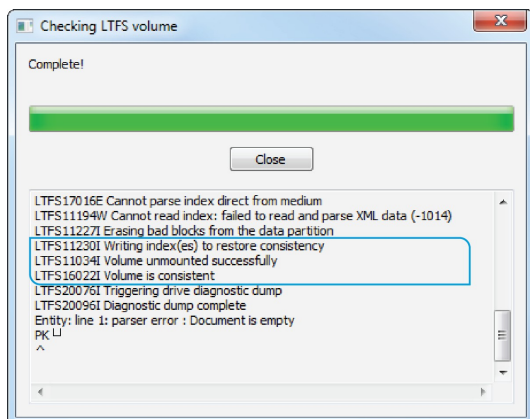

Figure 16. Windows CheckWizard outcome
5. The outcome will be displayed in the progress window; check this to ensure that the recovery was successful. Note that some error messages may be displayed as a result of the issues with the volume, but these can be ignored if the “success” messages are displayed as shown below in figure 16.